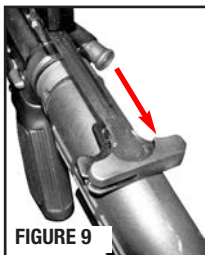
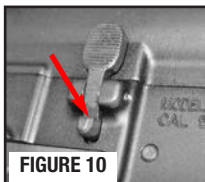

FIGURE 9
FIGURE 10
- Place safety selector lever on “SAFE” (FIGURE 8). If the safety lever won’t rotate to the “SAFE” position - pull the charging handle (uniformly by both sides) all the way back (FIGURE 9), press and hold the lower portion of the bolt catch down (FIGURE 10) while you release pressure on the charging handle. This will lock the bolt in the open position. Return charging handle fully forward until it locks and remove finger from bolt catch.